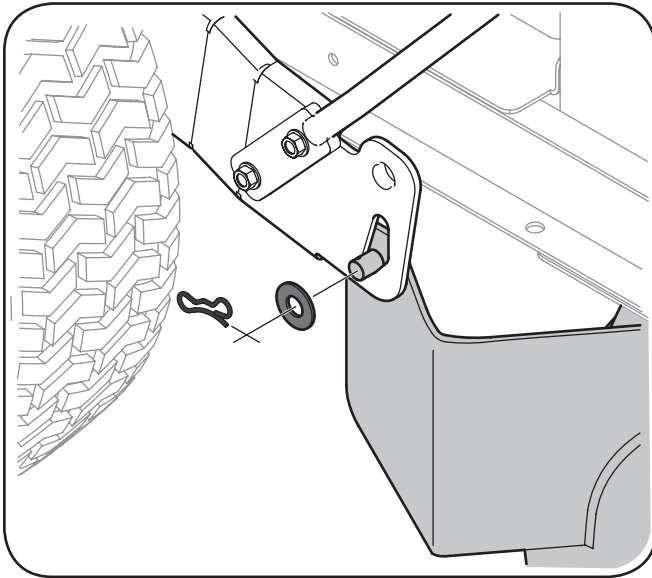

Figure 7-1
3. Remove the bow-tie cotter pin and flat washer from the deck lift assembly, and retain for reinstallation later. See Figure 7-1.